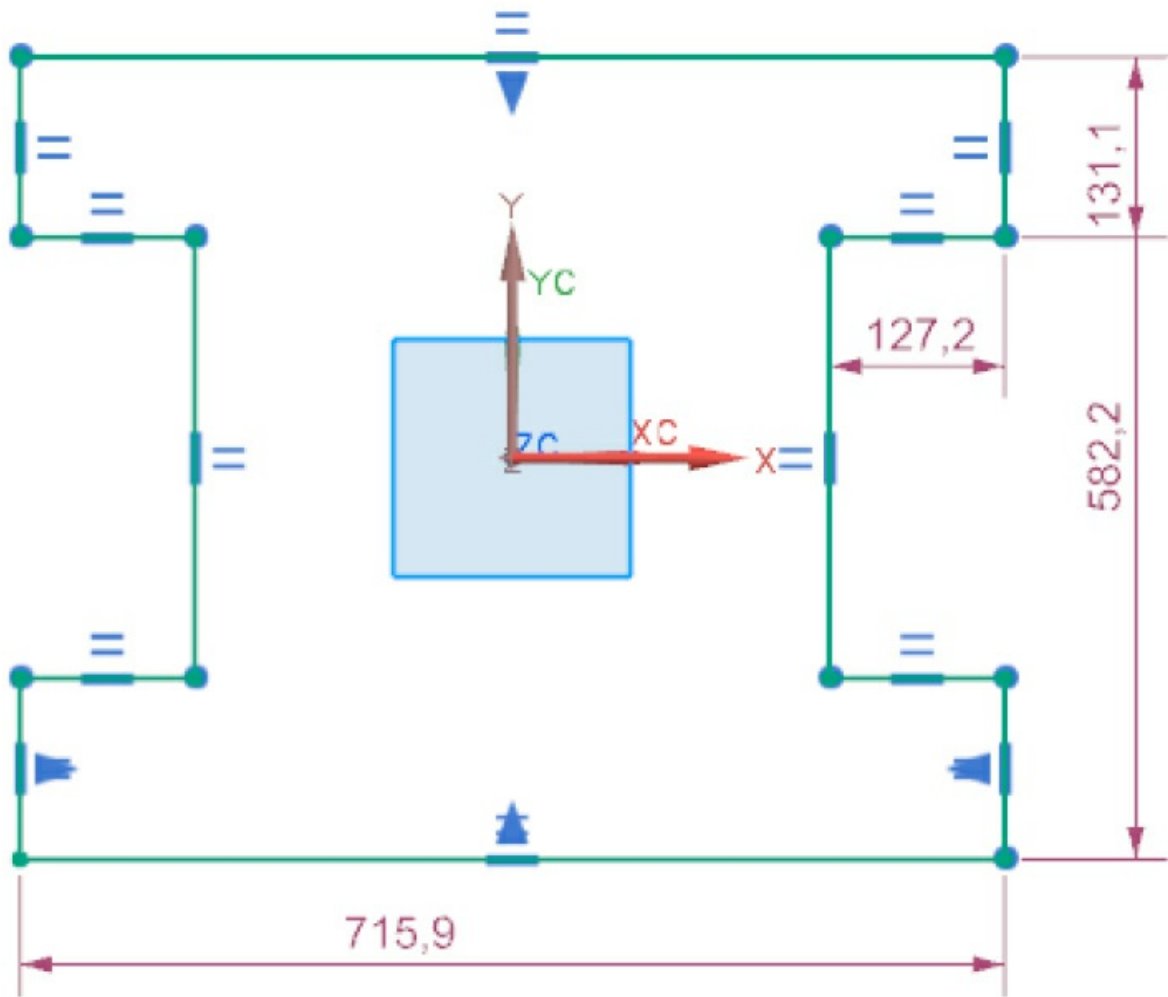

Figure 3-50 *The outer profile after adding constraints*
- Add the geometric constraints to the outer loop and modify its dimensional constraints, refer to Figure 3-50 and 3-51.
10. Similarly, make the lines 1 and 7 symmetric about the horizontal axis. Next, choose the **Close** button from the **Make Symmetric** dialog box to close it. The sketch after applying constraints to all these entities is shown in Figure 3-50.